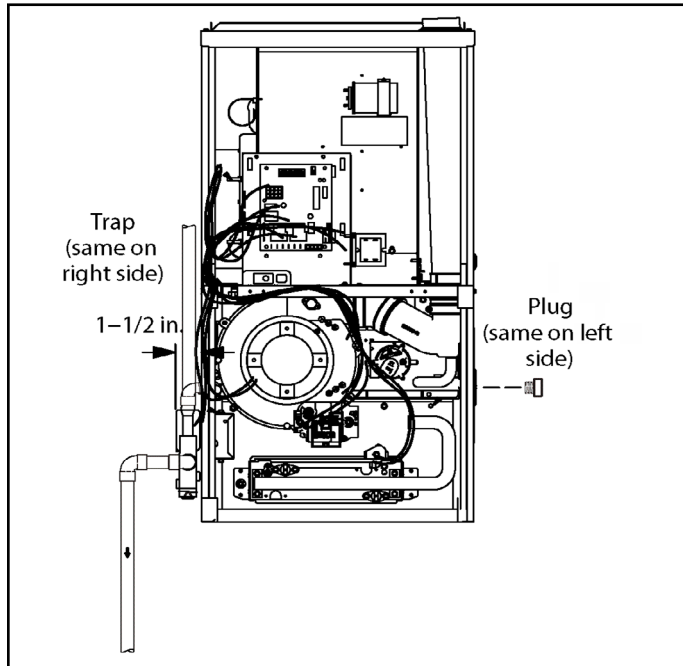
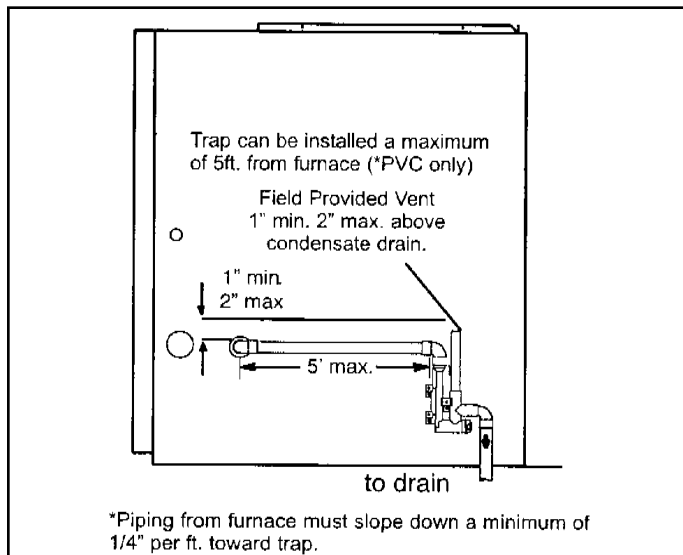

Figure 39. Condensate Trap and Plug Locations
Figure 40. Condensate Trap Location (shown with right side exit of condensation)
This unit is designed for either right- or left-side exit of condensate piping. Refer to Figure 39 and Figure 40 for condensate trap locations.
2. For furnaces with a 1/2" drain connection use a 3/8 allen wrench and remove plug (Figure 39) from the cold end header box at the appropriate location on the side of the unit. Install field-provided 1/2 NPT male